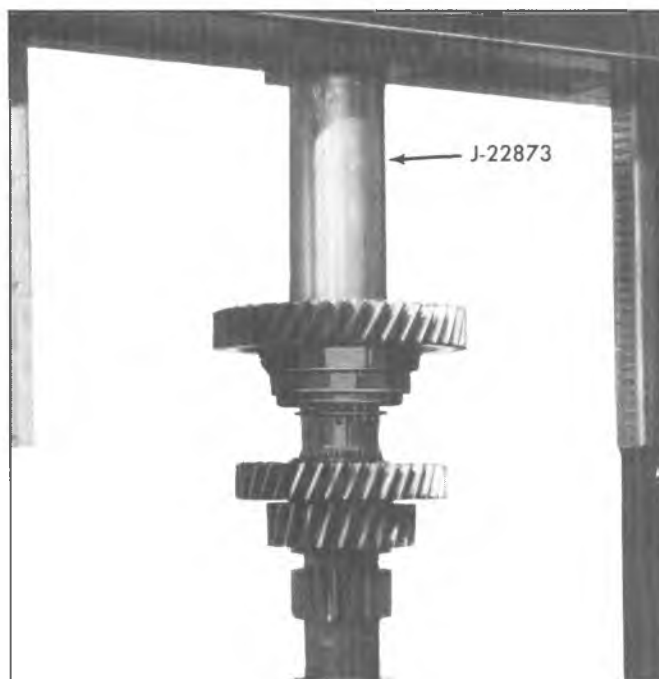

Fig. 22Q-Installing Clutch Countergear
4. Position clutch countergear and spacer on shaft and press countergear onto shaft against snap ring using Tool J-22873, (fig. 22Q).